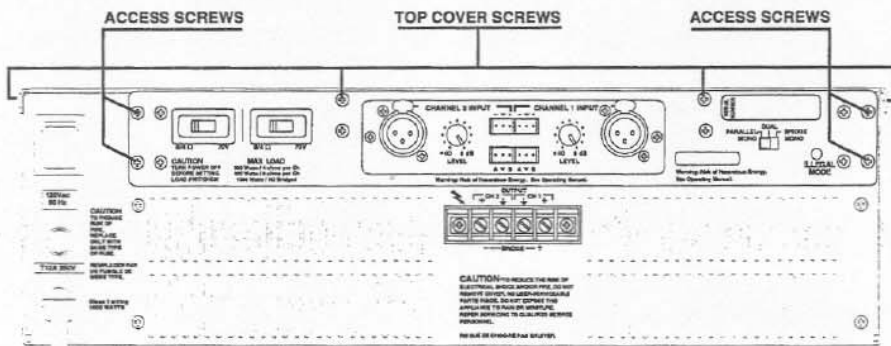
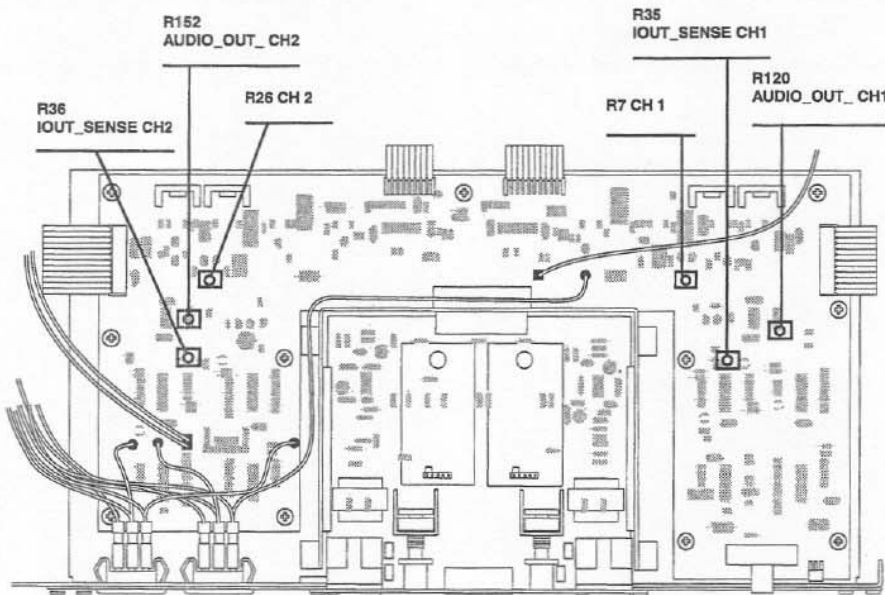

Figure 13 Access screws
Figure 14 DC bias and IT calibration trim pot locations
The following adjustments are best performed after the amplifier has warmed up. First remove the top cover by the 6 access screws along the front and back (Figure 13). Refer to figure 14 for the following procedure.
The following adjustments are made on the main power amplifier board. This board can be exposed by removing the four access screws at the four corners on the rear panel and raising the driver board assembly (Figure 13). Each channel is a grounded bridge configuration. Since a grounded bridge consists of 2 amplifier stages for each output, there are 2 independent idle adjustments for each channel. One is for the high side amplifier that drives the positive output terminal and the other is for the low side amplifier which sinks or sources the return path (ground terminal). Refer to Figure 15 for the following procedures.
7. While delivering this voltage to the 4.0 Ω load, adjust R35 (R36/ch2) of the driver pcb for 4.50 Vdc, measured on pin 7 of U3 (pin 7, U9/ch2). See figure 14 for trim pot locations.
11. While delivering this voltage to the unloaded output of the amplifier, adjust R120 (R152/ch2) of the driver pcb for .775 Vrms (AC) measured on pin 1 of U2 (pin1, U8/ch2). See figure 14 for trim pot locations.